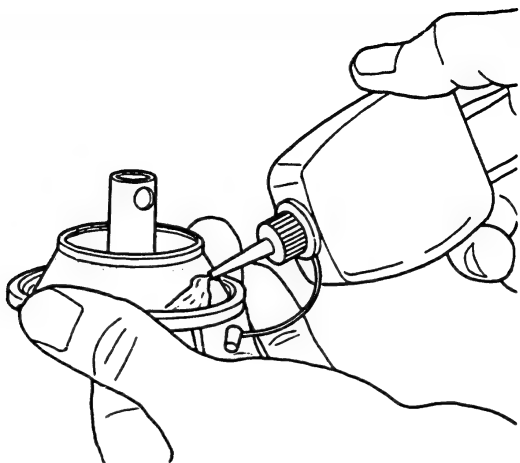

Fig. 51 Applying diaphragm oil
2. Apply a sufficient amount of oil to the diaphragm leather. (Fig. 51)